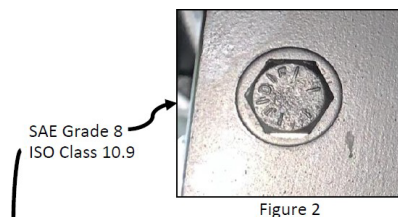

Figure 2
- ISO Class 10.9 bolts are equivalent to SAE Grade 8 bolts (6 radial embossed on the bolt head – Figure 2).